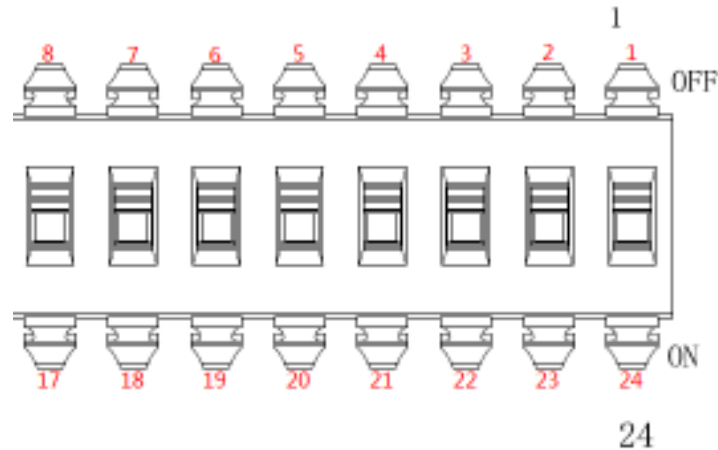

Figure 2-3
The speed dome can use DIP switch to set address number, encoding mode can adopt binary coding. 1(24) ~ 8(17) is valid bit, the highest address bit is 255, please refer to Figure 2-3 for address label and refer to Table 2-1 for address bit setting.